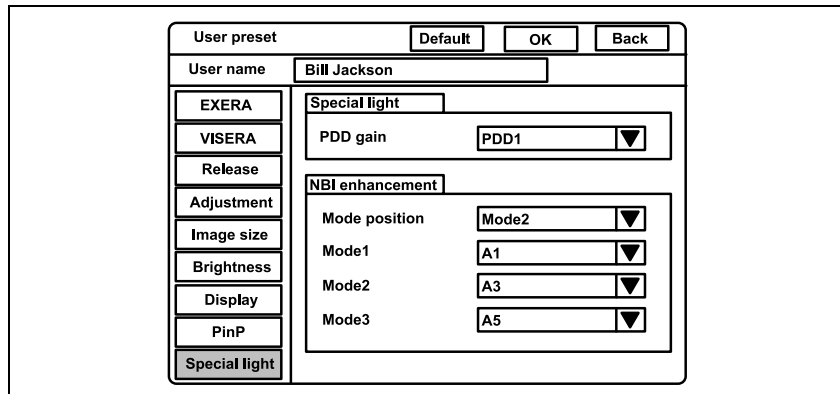

Figure 9.46
1. Click "OK" in the user preset menu (see Figure 9.46). A confirmation message appears on the monitor.